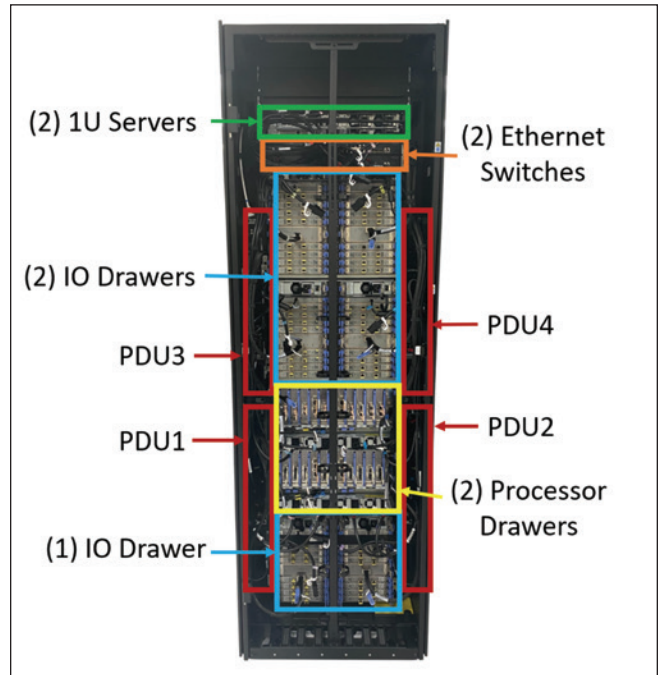

Figure 2: Rear view of the subcomponents within a single rack air-cooled server
Figure 2 shows a breakdown of the subcomponents within a single rack air-cooled server.
The system in Figure 2 contains two processor drawers, three (IO) drawers, two one-rack unit (1U) servers that manage the built-in service network, and two Ethernet switches that support communications between subcomponents for the built-in service network. Each of these subcomponents contains anywhere from one to four power supply units (PSUs), which take single-phase input within a rated range of 200Vac to 240Vac RMS. In addition to the processors themselves, the processor drawers contain memory and I/O cards to communicate with either other processor drawers or I/O drawers.